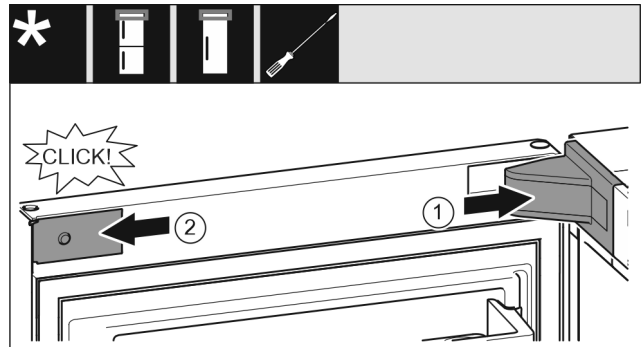

Fig. 23
- Position the swap bearing block cover Fig. 23 (1) and snap it in. You may need to push it carefully apart.
- Attach the panel Fig. 23 (2) from the side and snap it on.